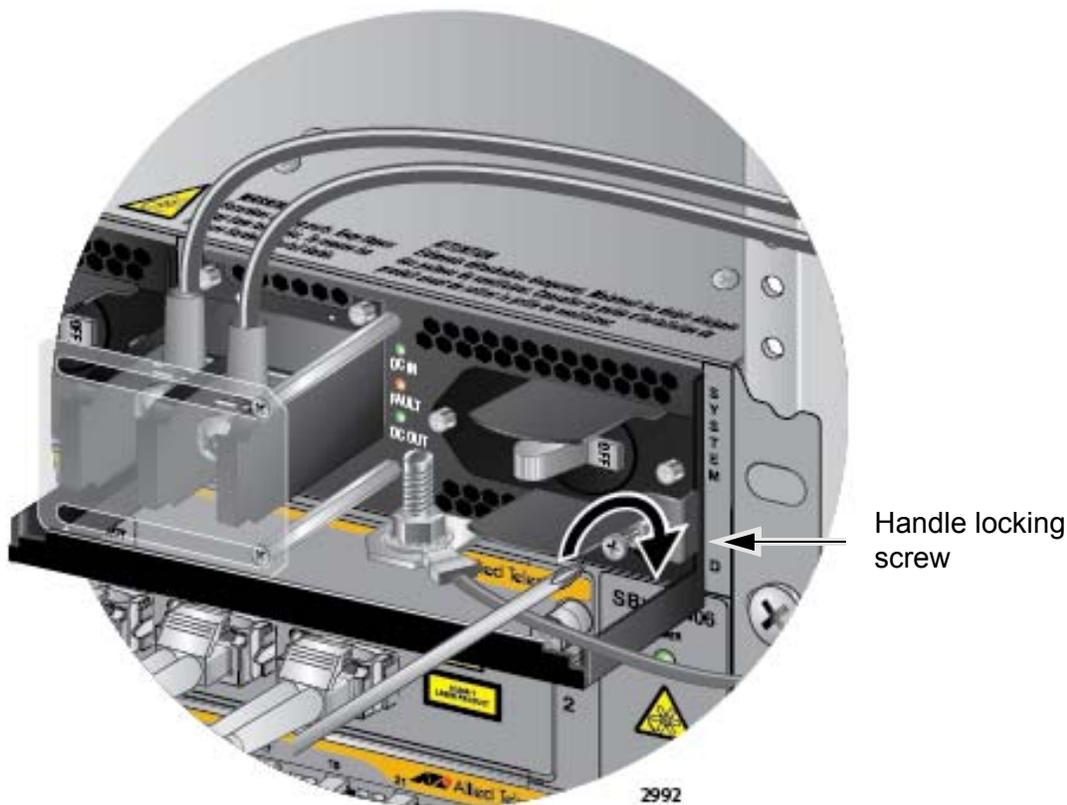

Figure 121. Tightening the Handle Locking Screw
9. With a #2 Phillips-head screwdriver, tighten the handle locking screw to secure the power supply to the chassis. See Figure 121 on page 166.
7. With a #2 Phillips-head screwdriver, tighten the handle locking screw to secure the power supply to the chassis. See Figure 121 on page 166.